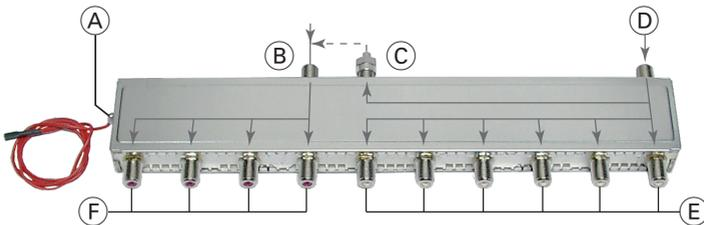

Fig. 14
- Connect outputs (E) and (F) of the input distributor (fig. 14) on the front of the head-end station (fig. 2 (4)) to the corresponding inputs on the cassettes.
- Connect inputs (B) and (D) of the SAT IF input distributor (fig. 14) to the LNBs.
- Terminate loop-through output (C) (fig. 14) using the terminating resistor supplied.
- Connect input (D) of the SAT IF input distributor (fig. 14) to the LNB.
- Connect loop-through output (C) to input (B) using a RF cable made on-site.